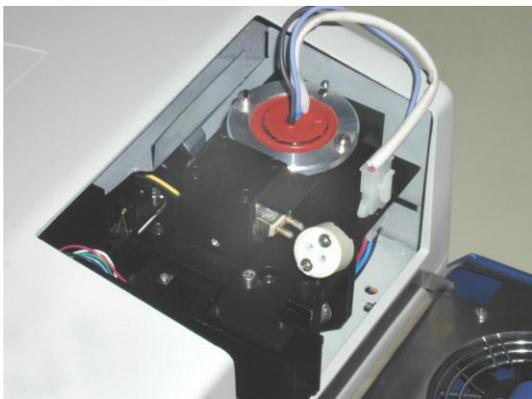

Figure 3-8. Halogen lamp orientation clip and lamp block assembly
4. Loosen, but do not remove, the Allen screw that fastens the lamp orientation clip to the lamp block assembly (Figure 3-8). The screw is located between the orientation clip tab and the base of the halogen lamp.
7. Taking care not to touch the glass bulb with bare hands, install the new halogen lamp with the prongs aligned horizontally (Figure 3-8).